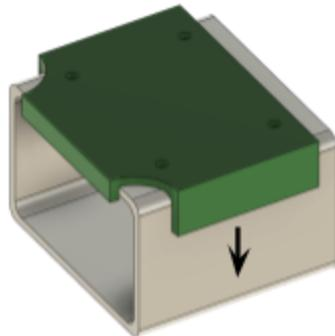

Figure 7.1
2. Position Assembly Tool #4 on the bottom face of the Y-Axis frame beam with the number on the printed part facing the beam and all tabs securely holding position as shown in Figure 7.1.